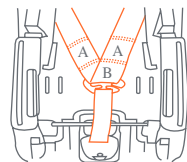

Fig. 28-3
8. Reassemble the Harness Straps to the Belt Adjuster Plate. Do the left Harness Strap first, followed by the right Harness Strap. Check that Harness Straps are completely within the Belt Adjuster Plate loop (Fig. 28-3). You have two adjustment positions on the harness. Use Position A for a smaller child, and Position B for a larger child.